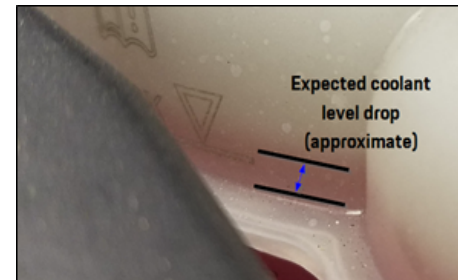

Figure 3
- c) Observe the approximate level drop of the coolant when pressure is applied. If the coolant level only drops about 4 to 7mm when under pressure, there should no longer be any air in the system. (See figure 3.)